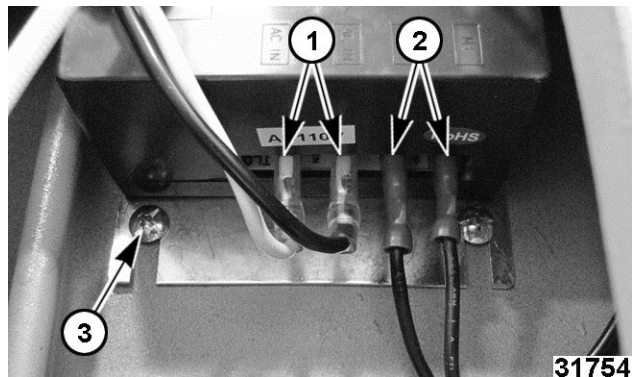

Fig. 50
2. Remove power leads (1, Fig. 50) and motor leads (2, Fig. 50) from bottom of power board.
3. Remove power board by loosening mounting screws (3, Fig. 50).